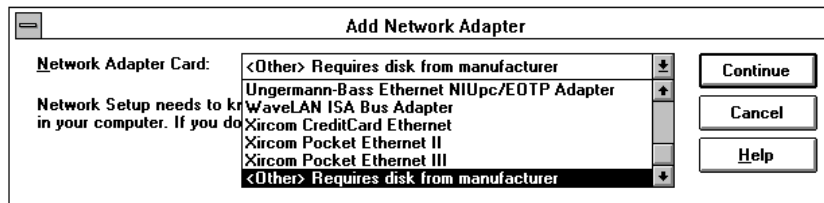

Figure 4-2. Add Network Adapter
3. Click **Add Adapter** to display the dialog in Figure 4-2: